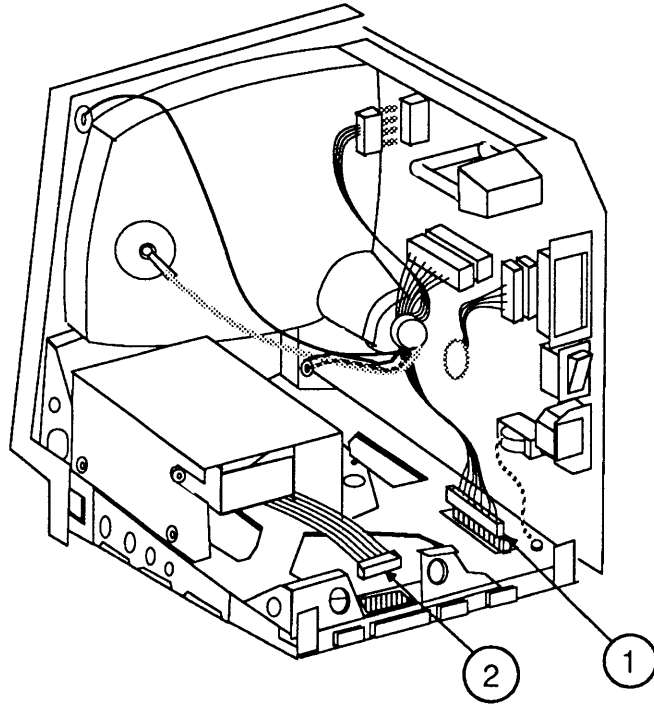

FIGURE 10
2. Connect the main logic cable (Figure 10, #1) and the disk drive cable (Figure 10, #2).